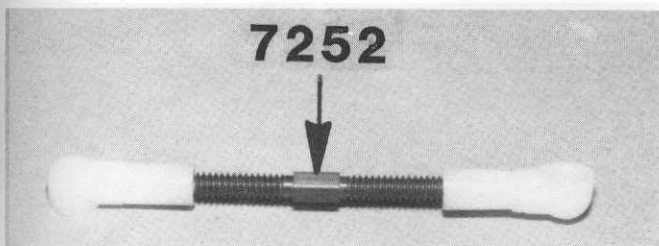

**Fig. 130**
□ **Figs. 130 & 131** Place your servo on your chassis, where shown, and take a pencil and go around the servo outlining the servo on the chassis. Now, take a piece of the #4326 servo tape, cut it off and stick it to the bottom of the servo. This stuff is very sticky, so be careful to position it right the first time. Peel off the backing. Now, very carefully position the servo directly above your pencil outline and press the servo against the chassis very firmly.